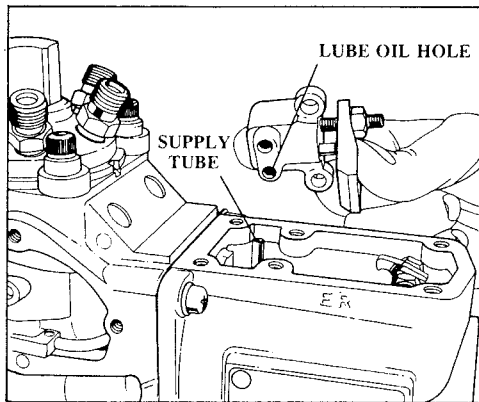

FIGURE 2-214
- (31) Position lube oil hole in excess fuel device over end of lube oil supply tube. (See figure 2-214). Make sure supply tube is installed in proper hole which has a passage through to upper excess fuel device.